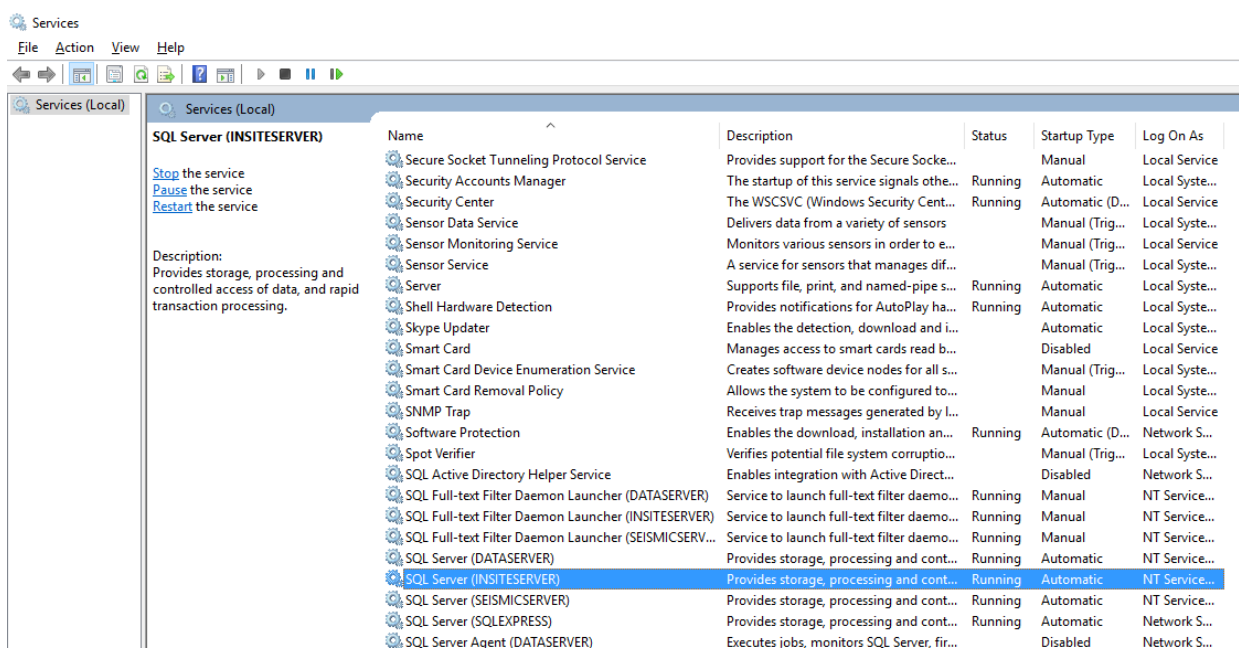

Figure 12-5: Ensure the relevant SQL Server is running in 'Services'.
2. Check the relevant SQL server is running (Figure 12-5).